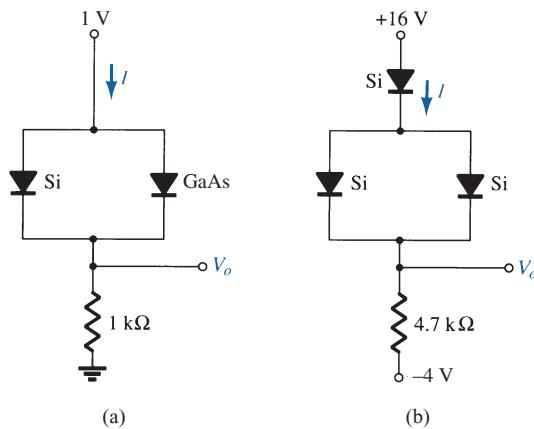

FIG. 161
*11. Determine V_o and I for the networks of Fig. 161.